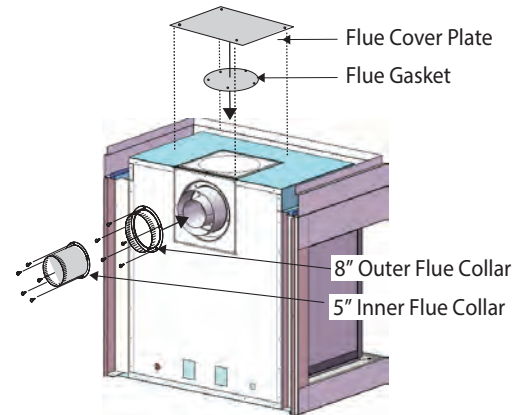

Figure 8a. Flue cover and collar installation, Rear Vented fireplace.
3. Install the (removed) Rear flue cover and gasket material, to the Top vent outlet. Fasten the cover with included hardware, as illustrated **Figure 8a**.
4. Install the (5" and 8") collars to the rear vent outlet using the included hardware, as illustrated **Figure 8a**.